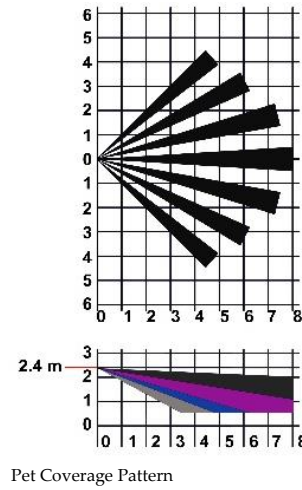

Figure 2
Step 1b: Coverage Patterns (see Figures 2 and 3)